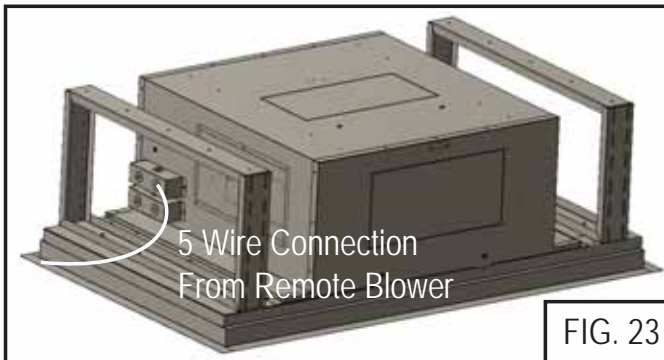

FIG. 23
2. Run 5-wire power with ground cable from remote blower to the remote blower wiring box. FIG. 23